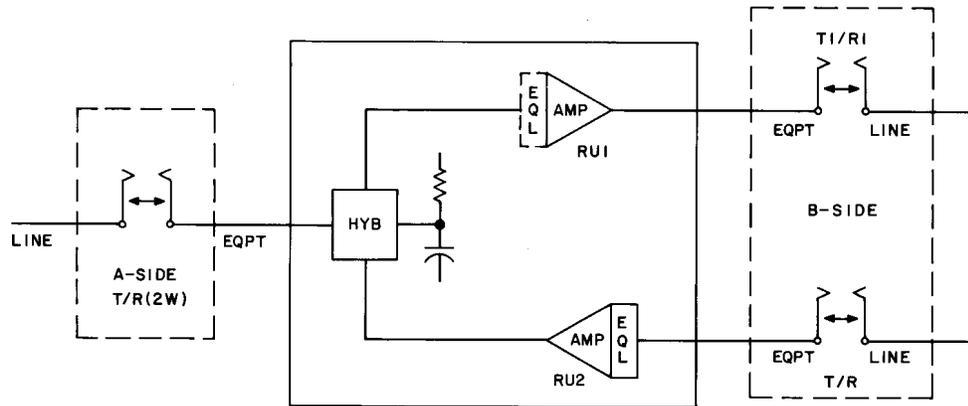

Fig. 4—Test Arrangement for 2-4 Terminal Repeater
3.05 The 2-4 terminal repeater test arrangement is shown in Fig. 4. In applications requiring through or terminal balance the NBOC must be set